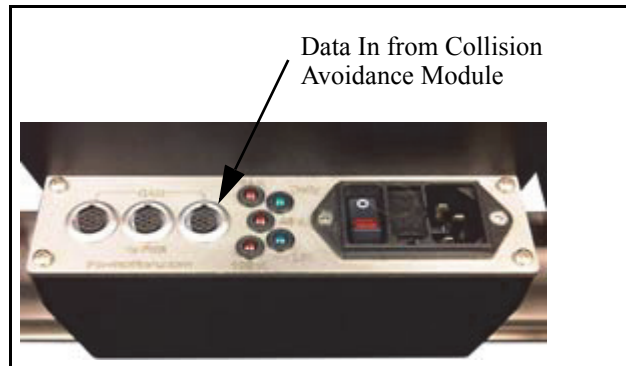

Figure 3.15 Connecting to the dolly
5. Connect the other end of the dolly CAN bus cable to the rightmost CAN bus connector on the dolly (**Figure 3.15**). This must be the same dolly you noted in step 1 on page 3-11.